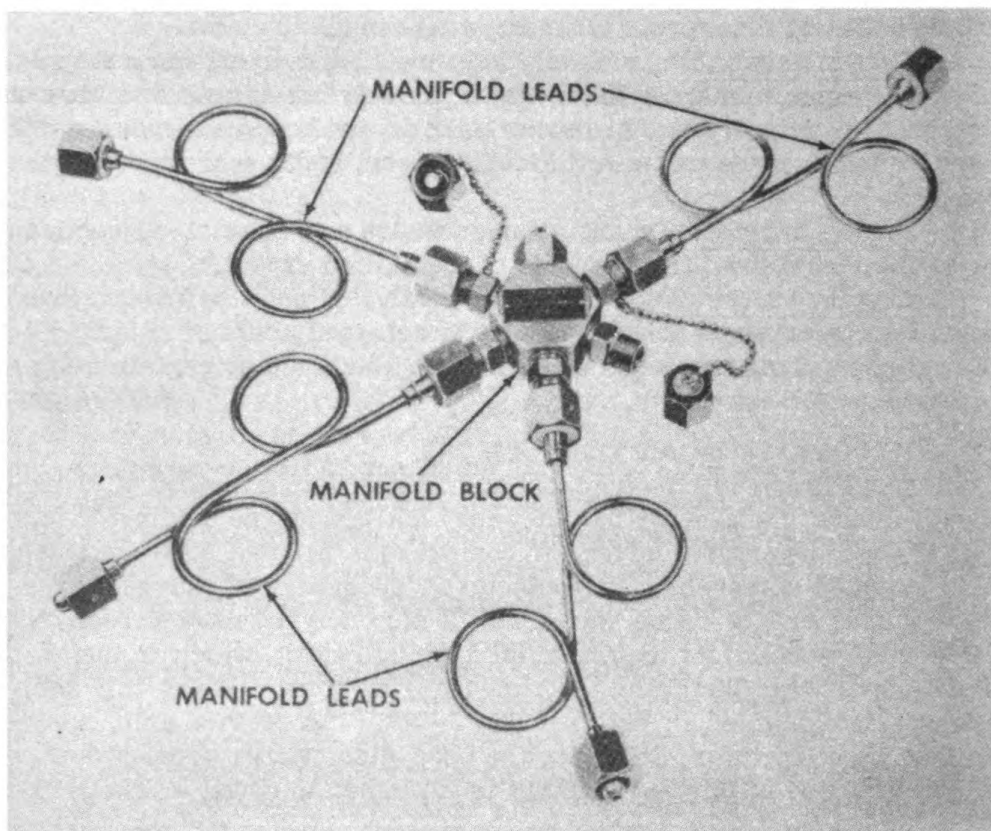

Fig. 117. Pressure filling line assembly (manifold)
a. Equipment required. (1) One manifold block and three or four manifold leads (fig. 117). These parts must be clean and free from oil or grease.